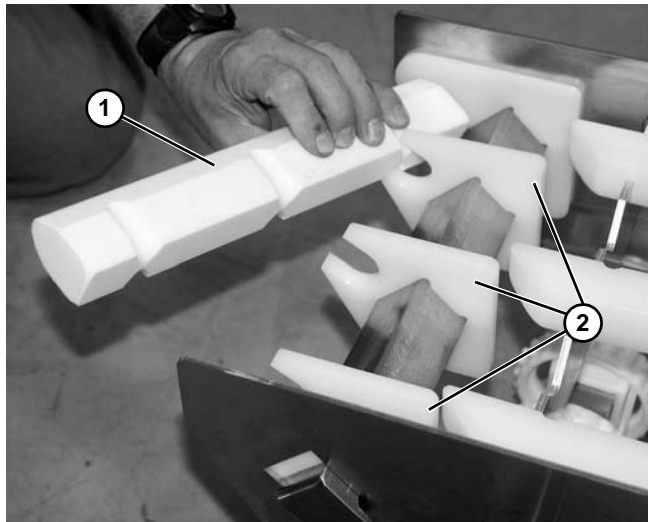

Figure 38
- c. Nose Bar Idler End: Remove nose bar return strip (**Figure 38, item 1**) and place in COP tank. Clean tail, slide nose bar pucks (**Figure 38, item 2**), and clean again.